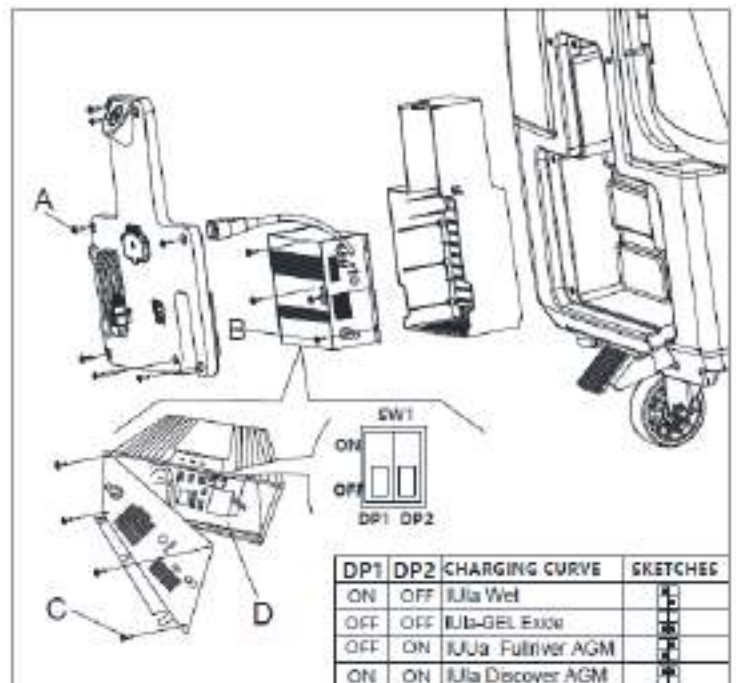

Figure 6
3. Set DP1 and DP2 according to the table in Figure 6.
4. Install the screws (A,B,C, Figure 6) after the setting.